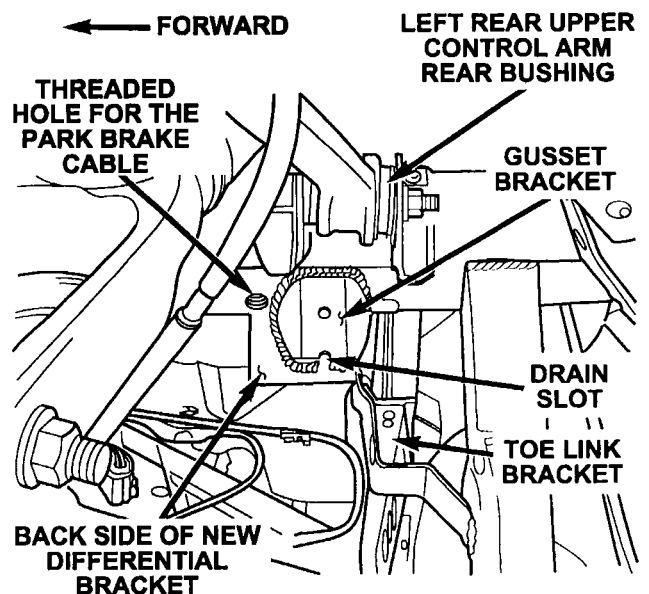

Figure 31 – View from Left Rear Wheel Opening
17. Install the gusset bracket (Figure 31) to the underside of the frame rail and position the gusset against the back of the differential mounting bracket. Weld all areas where the gusset bracket meets the frame rail and differential bracket.